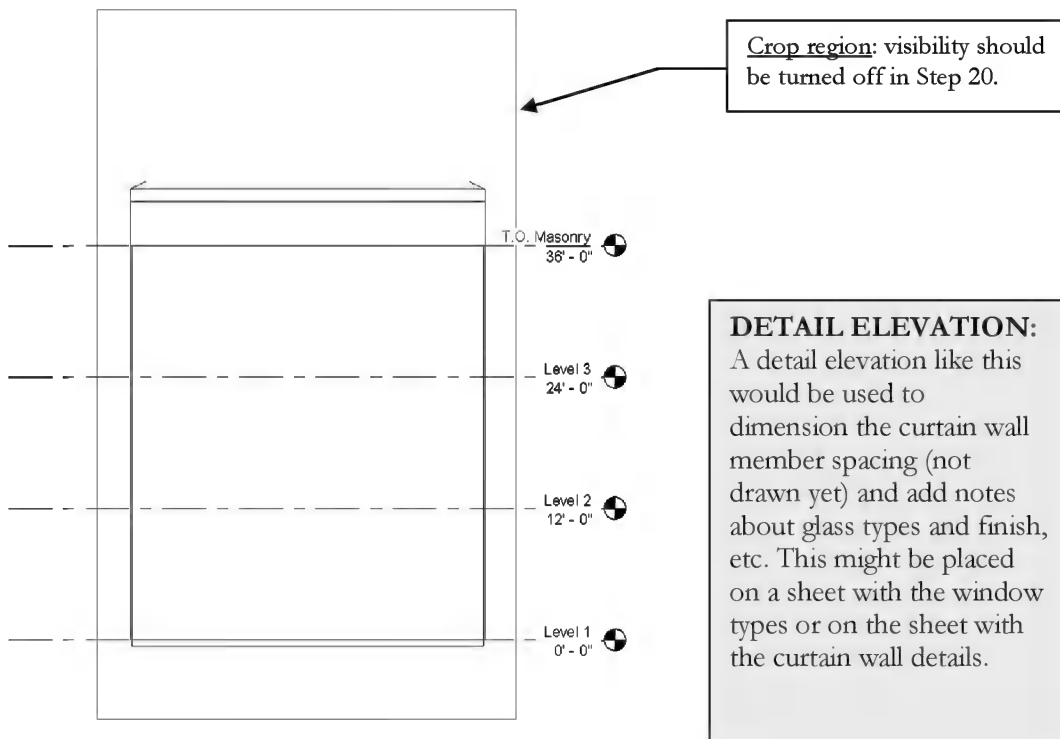

FIGURE 8-1.8 Atrium curtain wall detail elevation
19. Switch to **South Temp** view to see the “detail” elevation (Figure 8-1.8).